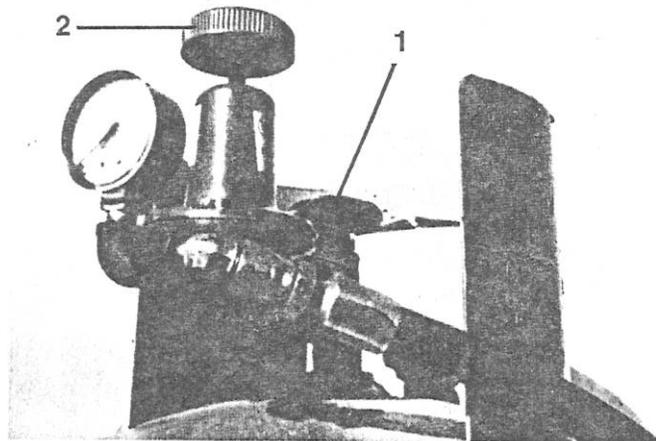
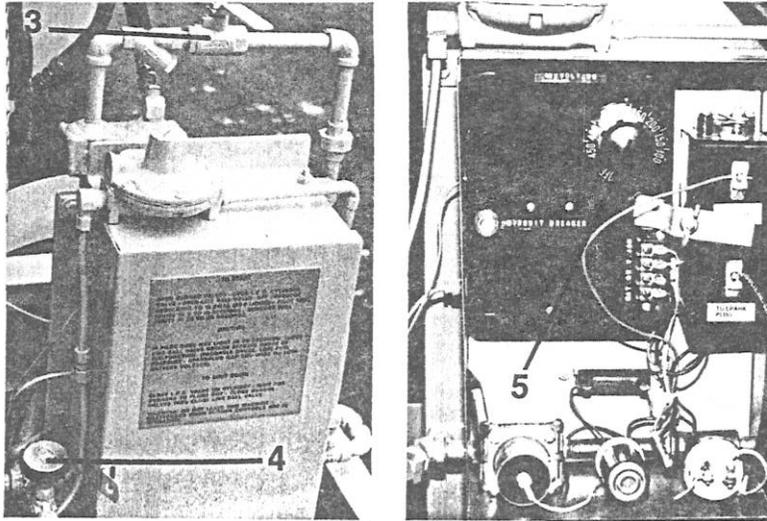
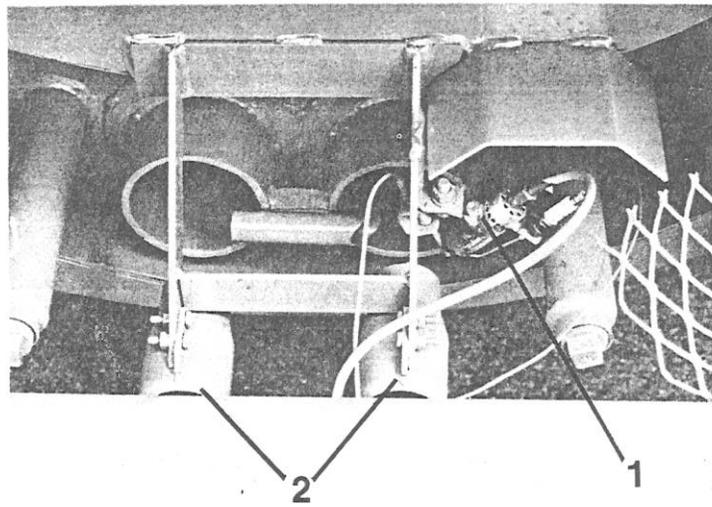

FIGURE 6 — Pressure Regulators
FIGURE 7 — Automatic Burner Control
FIGURE 8
Open burner valves (4), Fig. 7, open L.P.G. cylinder valve (1), Fig. 6, open line ball valve (3), Fig. 7, set pressure regulator to 18 PSI (2), Fig. 6. Pilot (1), Fig. 8, will ignite in 5 to 10 seconds. Set desired temperature required on temperature indicator dial inside control box (5), Fig. 7. Burners (2), Fig. 8, will ignite in 20 to 30 seconds.